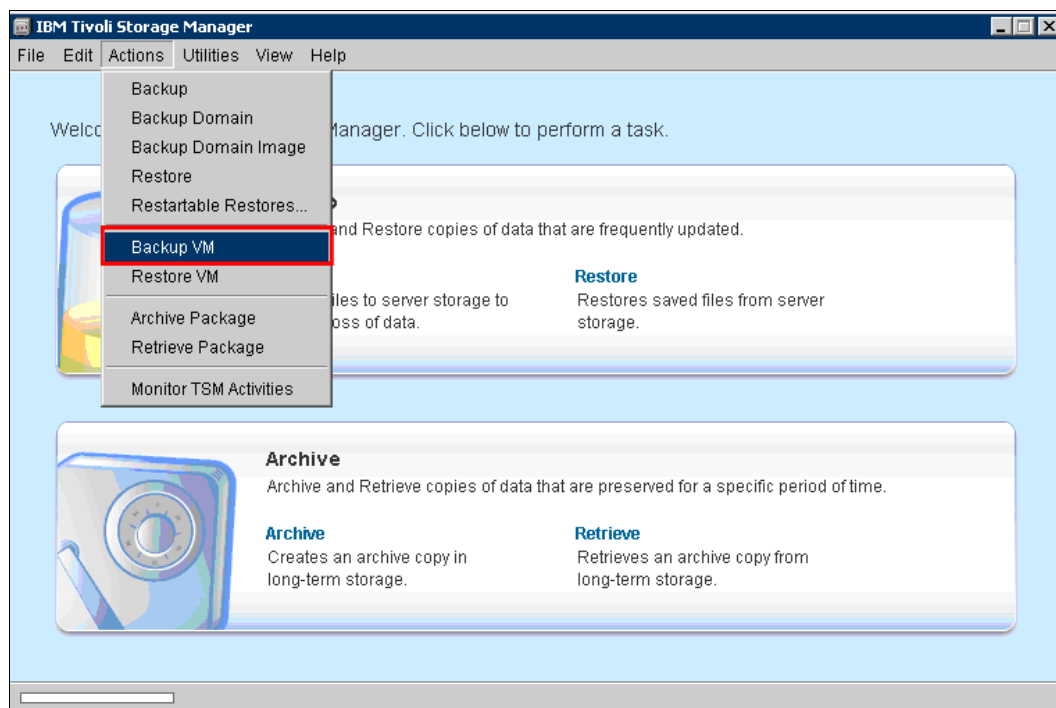

Figure 20-24 Tivoli Storage Manager GUI showing the Backup VM menu cascade
1. From the Tivoli Storage Manager GUI drop-down menus, click **Actions** → **Backup VM** (Figure 20-24).